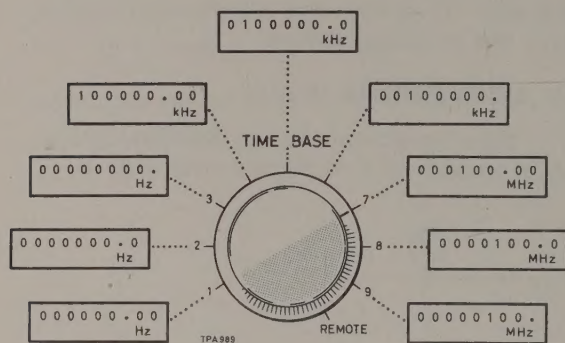

Fig. 2.2 Self-check test readout
- (4) Rotate TIME BASE switch through its nine positions and observe the decade readouts, which should be as shown in Fig. 2.2 above (± 1 count).